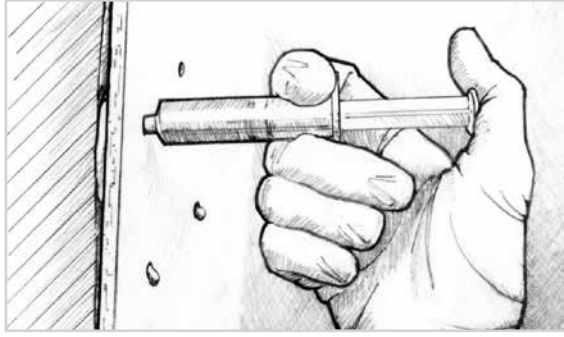

Figure 8-1 Drill $\frac{3}{16}$ " (5 mm) holes through the laminate, in areas of suspected voids. Inject the mixture into the voids.
3. Fill all voids between laminate and the lead ballast with a WEST SYSTEM 105 Resin based epoxy thickened with 404 or 406 filler to a catsup consistency after the laminate and voids have dried thoroughly. Inject the mixture under pressure into the void using an 807 Syringe, with the tip cut back to fit the $\frac{3}{16}$ " (5 mm) hole (Figure 8-1). If voids are extensive, use an 810 Fillable Caulking Tube with the appropriate sized drilled hole in the laminate. You may also use Six10 Epoxy Adhesive dispensed through a static mixer. Fill the remaining holes in the laminate a 105 Epoxy/404 or 406 filler mixture thickened to a mayonnaise consistency or with Six10 Epoxy Adhesive. Allow the epoxy to cure thoroughly. If necessary, use multiple applications to avoid excessive exothermic heat buildup from filling too large a void at one time.